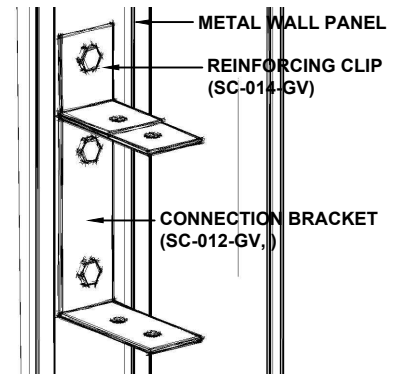

FIGURE 7
3. **Figure 7** - If your bracket location falls in the flat of the wall panel you may surface mount the Reinforcing Clip (SC-014-GV) and Connection Bracket (SC-012-GV) as shown. You may want to remove some of the batt insulation to allow a tight connection. **ALWAYS INSTALL THE TOP REINFORCING CLIP (SC-014-GV).**